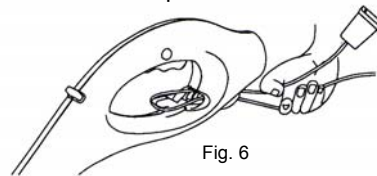

Fig. 6
1. Loop the extension cord cable through the power cord restraint and hook it over the power cord holder. (Fig. 6)